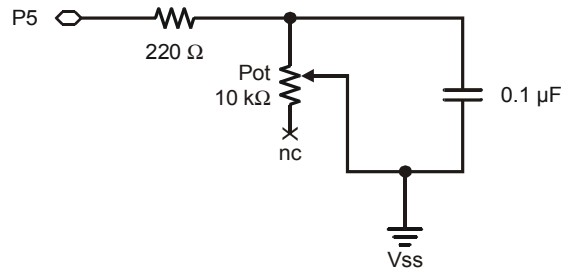
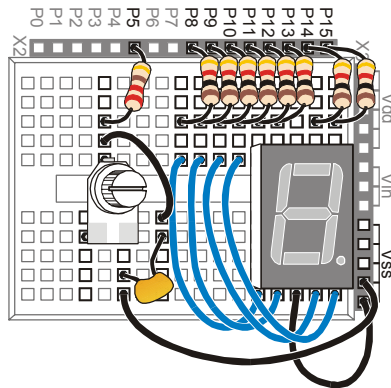

Figure 6-14
Figure 6-15
Figure 6-14 shows a schematic of the potentiometer circuit that should be added to the project. Figure 6-15 shows a wiring diagram of the circuit from Figure 6-14 combined with the circuit from Figure 6-10 on Page 172.
- ✓ Add the potentiometer circuit to the 7-segment LED display circuit as shown in Figure 6-15.